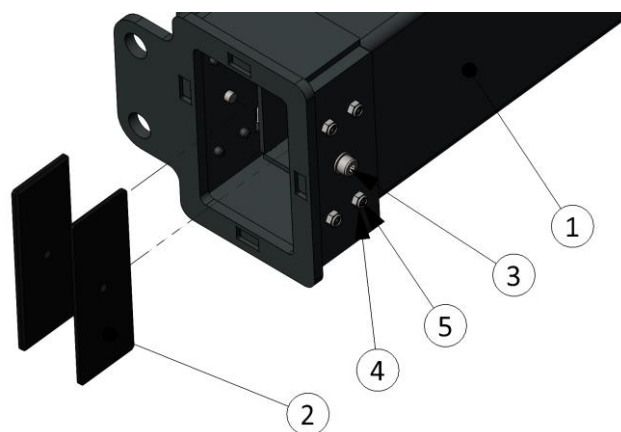

Figure 8: The sliding plates of the outer tube.
See figure 8. At the end of the outer tube (pos. 1), a plastic sliding plate (pos. 2) is fitted on both sides to eliminate the play between inner and outer tube. With use, the play will increase over time.